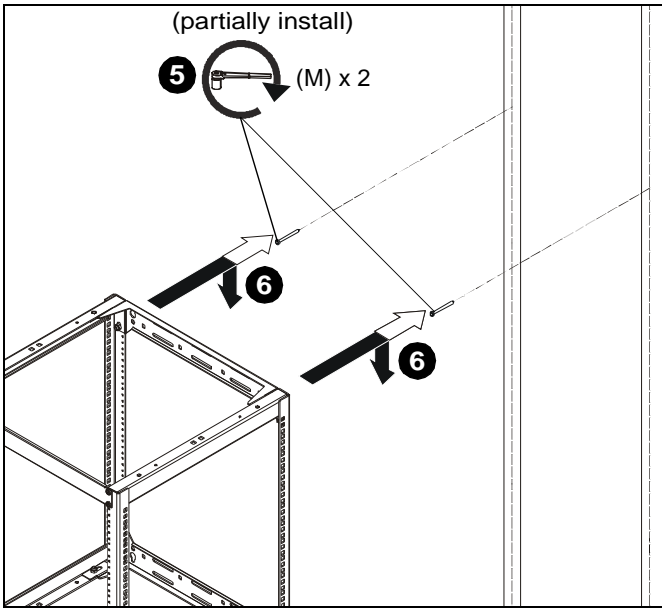

Figure 16
- Partially install two 5/16" x 3 1/2" lag bolts (M) into upper U10 anchors (L). (See Figure 16)
- Hang rack onto partially installed bolts. (See Figure 16)